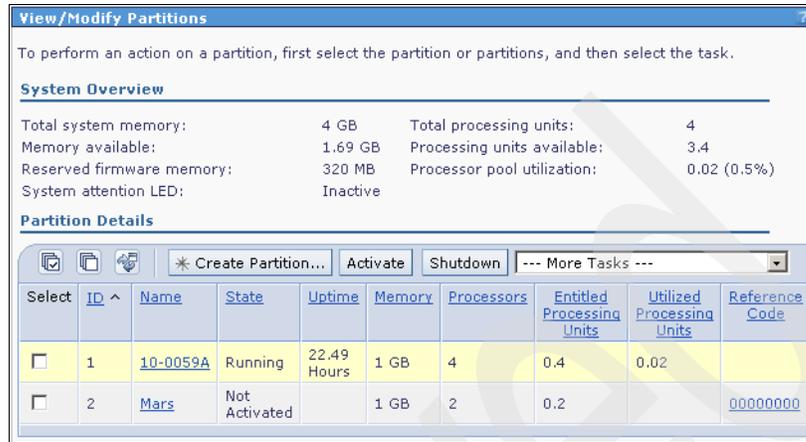

Figure 4-26 Newly created AIX/Linux partition
15. The new partition will be listed under View/Modify Partitions, as shown in Figure 4-26.